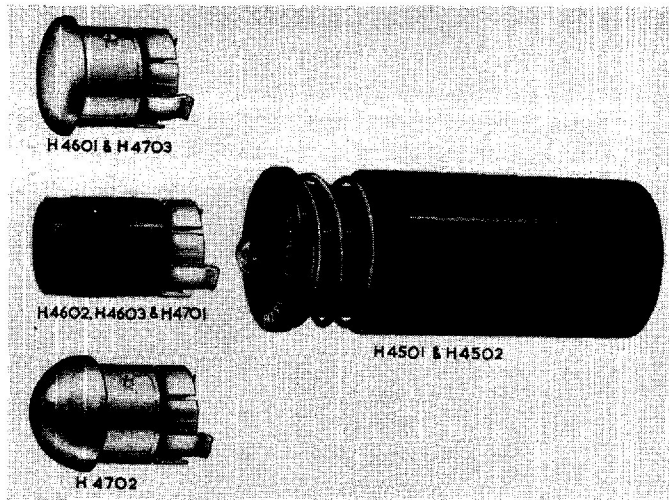
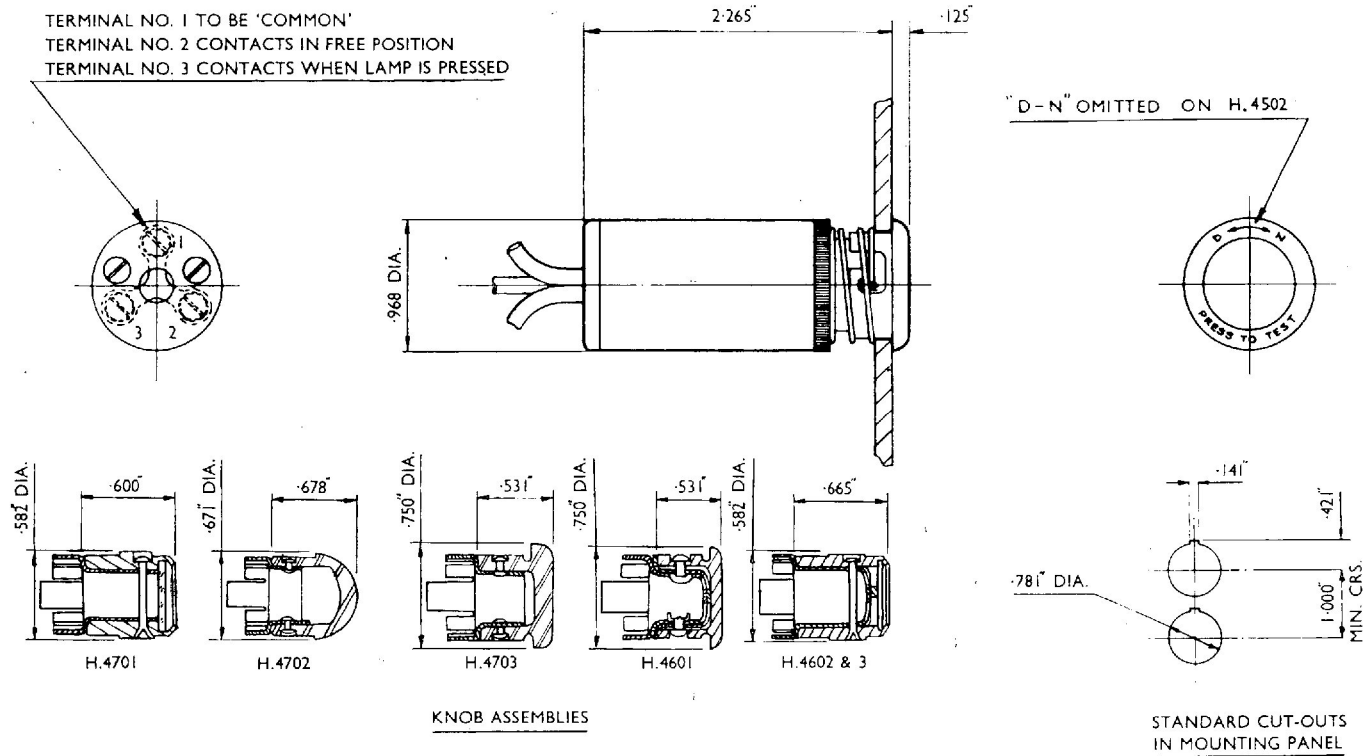

Fig. 1. Typical lamp bodies and knob assemblies
Fig. 2. General and installation details
2. Each lamp comprises a body (H.4501, 2, 3 or 4) and a matching knob assembly (H.4600 or H.4700 series). Of the former types H.4501 and 3 are related to the H.4600 series; types H.4502 and 4 with the H.4700 series. The lamps are equipped with 24 volt, 2.4 watt bulbs. When it is necessary to renew them, replacements should be ordered under Ref. No. 5L/9959213. The front rim of all bodies is engraved as shown in fig. 1 and 2, H.4502 differs however in the manner shown in fig. 2.
3. The type of body and matching knob assemblies are summarised in Table 1, which should be read in conjunction with fig. 1 and 2.
8. The only difference between these two types is that the H.4501 body is engraved with the letters "D-N" on the rim of the bezel (fig. 2), to correspond with the knob assembly fitted with an iris dimmer. The engraving serves to indicate the direction of adjustment from "DAY" to "NIGHT" positions.
12. When these lamps are mounted in banks, the minimum distance between centres is 1.000 in. See fig. 2 for panel cut-out details.